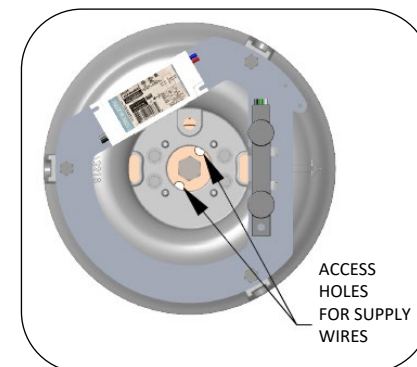

Fig. 8 – Supply wires holes
11. Lay fixture on its side, with the base near the conduit and anchors. Pull supply wires through two holes in top of post, see Fig. 8.